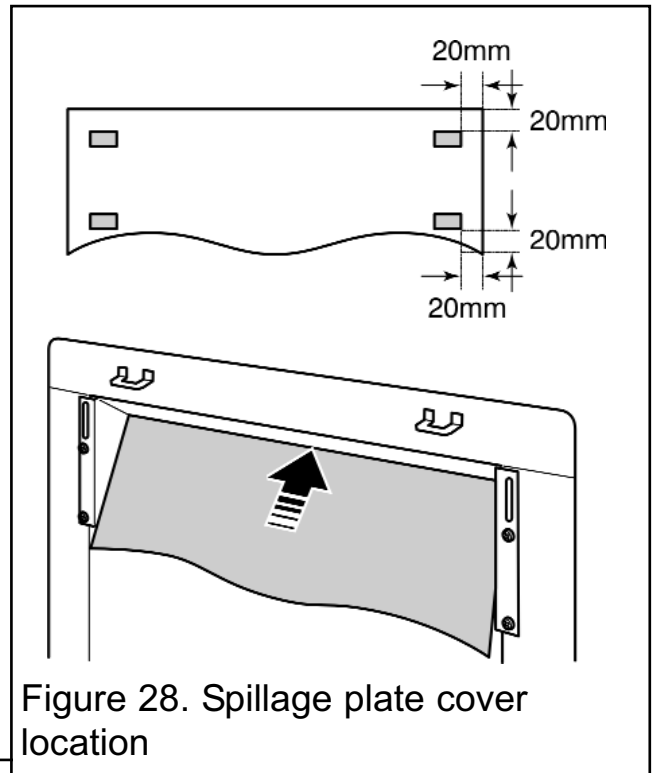

Figure 28. Spillage plate cover location
3. The Victorian fascia pack has a spillage plate cover and four magnets. Locate the four magnets approximately 20mm from the rear corners of the cover (See figure 28). Locate the cover onto the spillage plate (See figure 28). Ensure that the top locates against the upper face of the spillage plate.